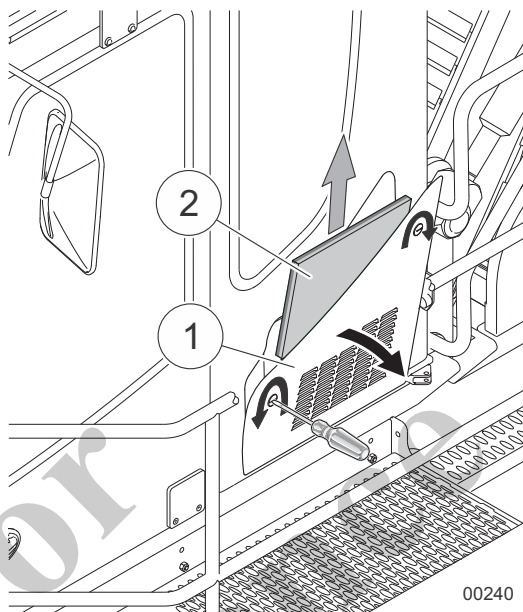

Fig. 40 Fresh air filter
1	Open the cover closures (1) in Fig. 40 with a screwdriver. – Turn the front closure to the left to open it. – Turn the rear closure to the right to open it.
3	Pull the filter element (2) in Fig. 40 up and out.